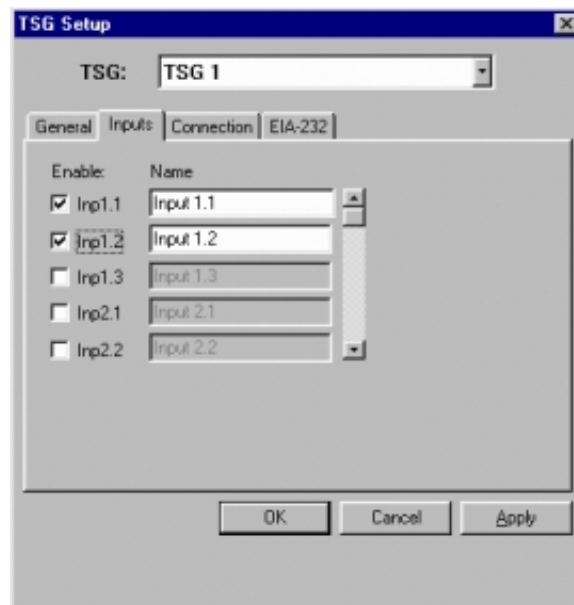

Figure 2- 28. TSG Setup dialog box
- *Inputs*: Use the options in the *Inputs* tab of the *TSG Setup* dialog box (Figure 2- 28) to define which inputs to use and to assign meaningful names to each; use the scrollbar to scroll from *Input 1.1* to *Input 4.3*. For each input, specify: